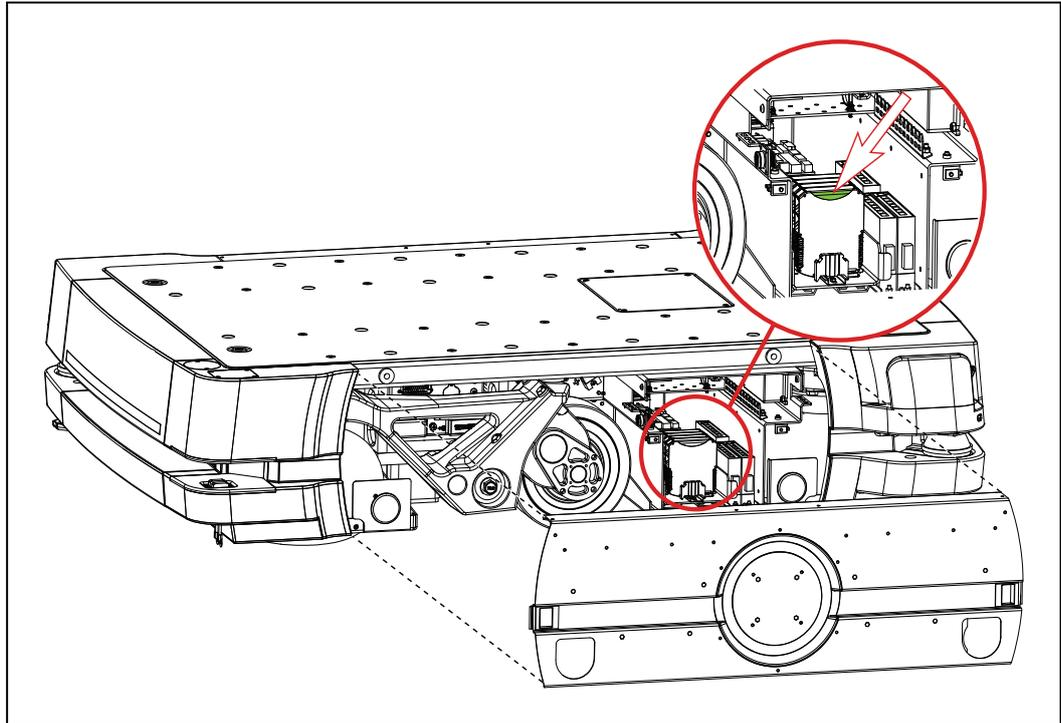
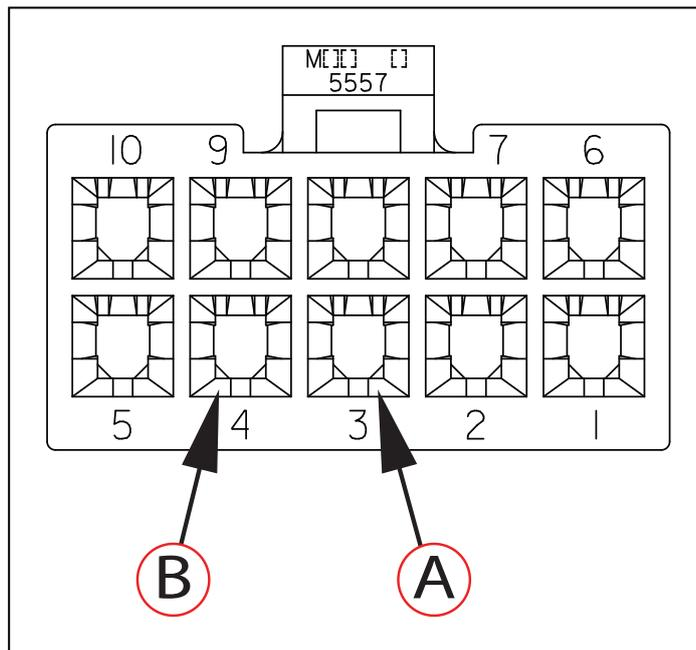

Figure 8-2. Location of the Module to be Probed
Figure 8-3. Module Connector Configuration - Viewed from the Rear, (A) Pin 3 (Negative), and (B) Pin 4 (Positive)
5. Each motor controller is equipped with a capacitor that stores energy. You must check and make sure that the voltage left is less than 7 V. Probe the appropriate connector pins on the module displayed in Figure 8-2. using a digital multimeter. Prob the back of the pin 4 (positive), and pin 3 (negative) as shown in Figure 8-3.